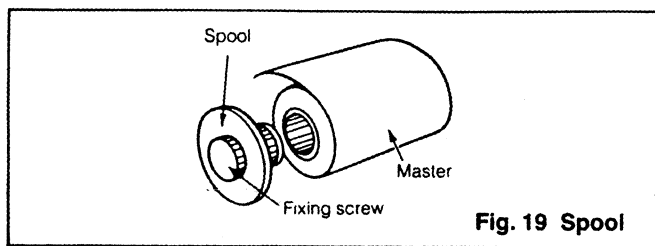

Fig. 19 Spool
- ⑤ Take out the master, insert the spool in the master's paper core and tighten the fixing screw (Fig. 19).